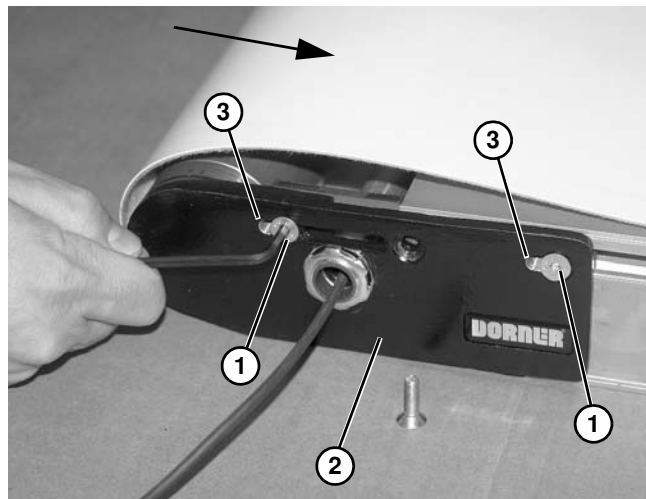

Figure 9
- Loosen outer fastening screws (**Figure 9, item 1**) from idrive head plate (**Figure 9, item 2**) (on each side of conveyor) to allow head plate assembly to slide in slots (**Figure 9, item 3**). Push head plate inward toward conveyor.